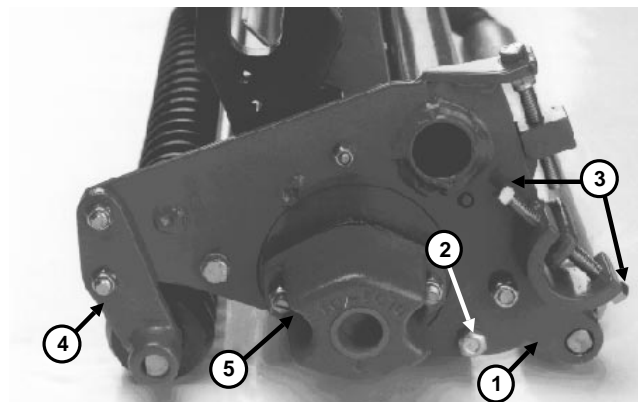

Figure 25
1. Remove locknut securing rear roller height of cut bracket to side plate on both ends of cutting unit (Fig. 25).
**IMPORTANT:** Securely seat the (2) bedbar pivot bolts to a maximum torque of 40 ft-lbs. Always check reel bearing adjustment after installing bedbar.